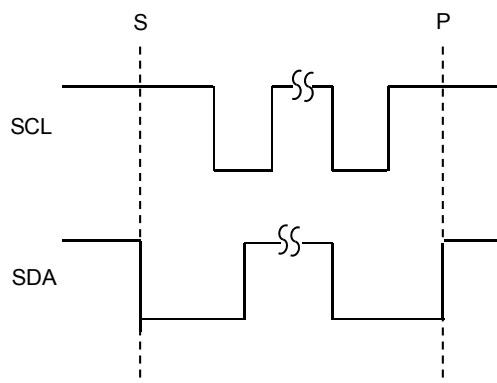

Figure 4. START and STOP Conditions
SDA and SCL idle high when the bus is not in use. A master initiates communication by issuing a START (S) condition. A START condition is a high-to-low transition on SDA with SCL high. A STOP (P) condition is a low to high transition on SDA while SCL is high (Figure 4). A START condition from the master signals the beginning of a transmission to the G1625. The master terminates transmission, and frees the bus, by issuing a STOP condition.